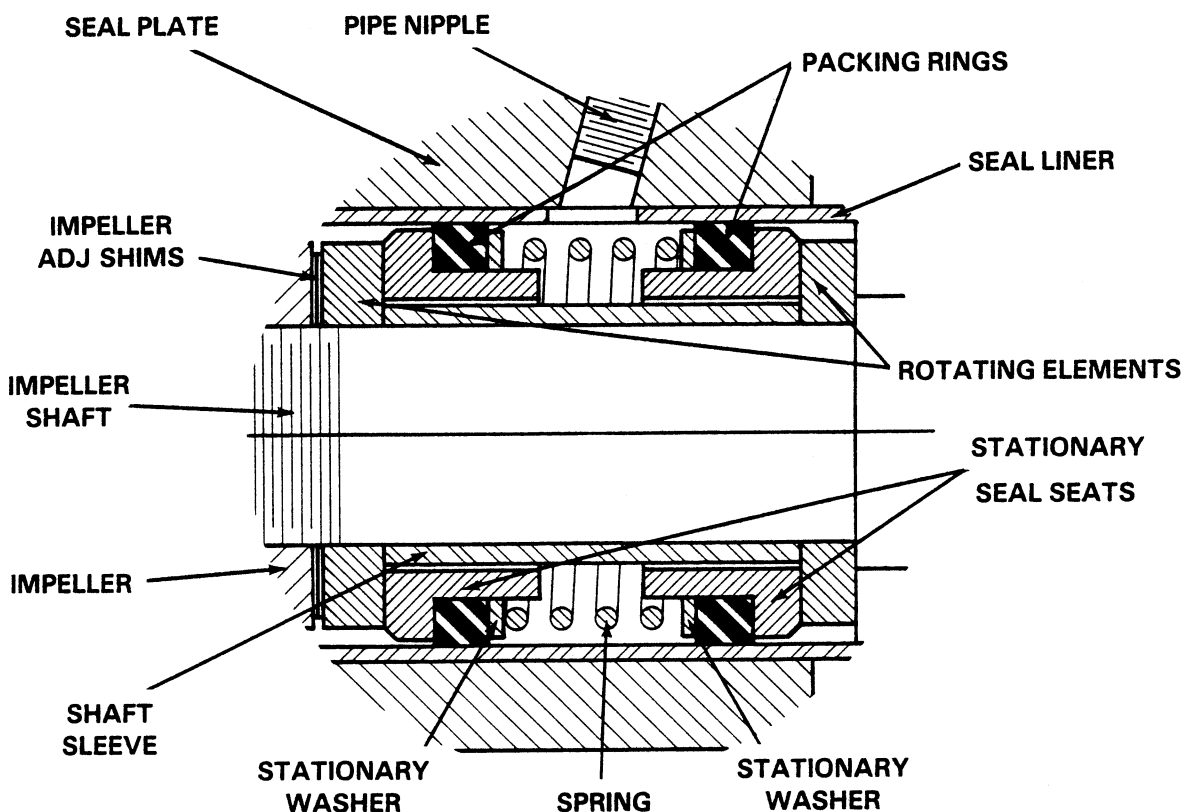

Figure 4. GS-1500 Seal Assembly
Before removing the seal assembly, turn the cross arm on the seal grease cup (59) clockwise until it rests against the cover (see figure 4). This will prevent the grease in the cup from escaping after the seal is removed.
Lubricate the packing rings with soft grease or oil when installing the seal, and place a drop of light lubricating oil on the lapped faces. Assemble the seal as shown in figure 4.